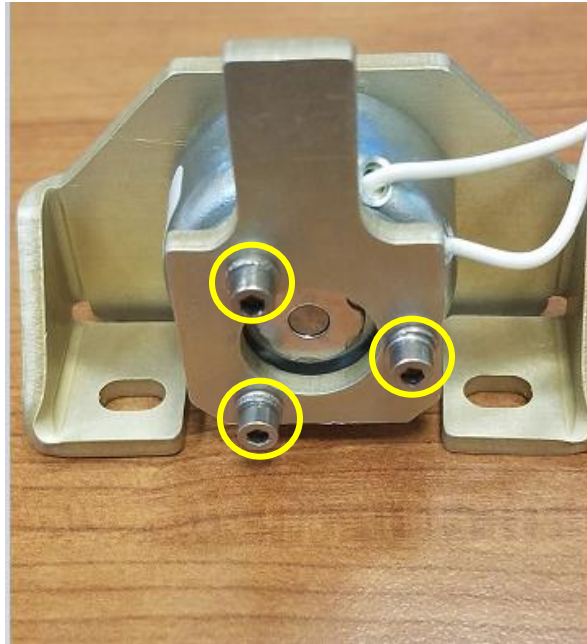

Figure 3: Inspect Mounting Hardware
- 2.3. Inspect the hardware used to mount the arm to the solenoid. Verify that each of the three mounting screws has both a lock and a flat washer. See **Figure 3**.